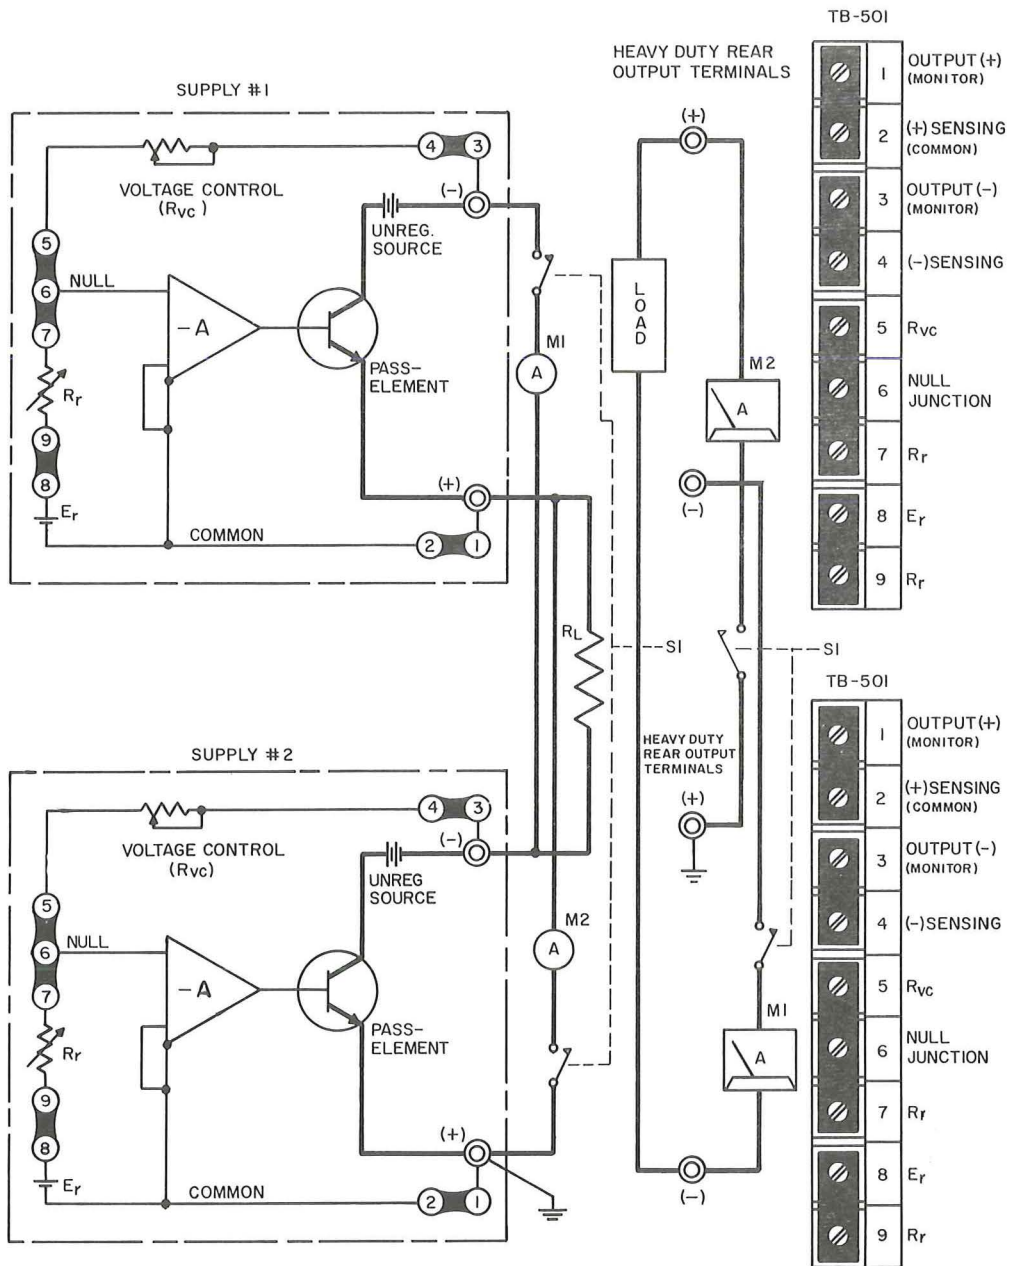

FIG. 3-13 BASIC PARALLEL CONNECTION OF TWO KEPKO POWER SUPPLIES
3-44 PROCEDURE FOR AUTOMATIC PARALLEL CONNECTION (See FIG. 3-13)
- 4) Make all load interconnections as shown in the connection diagram (refer to FIG. 3-13) *except the error sensing connections* (these connections may be added later if needed).